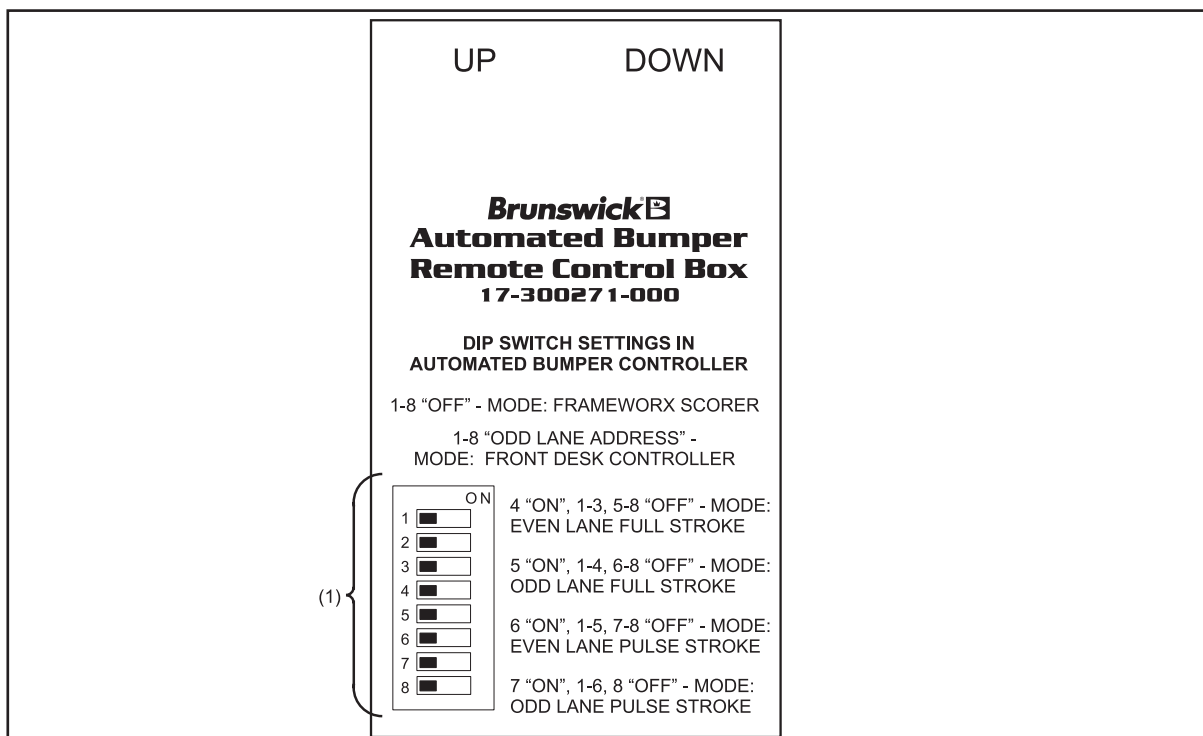

Figure 23. Automated Bumper Remote Control Box
2. Set DIP switches inside automated bumper controller as listed in *Figure 23*.
(1) DIP SWITCH SETTING
**i** **NOTE:** DIP switch settings as listed in Figure 23 are for raising/lowering rails for visual check and/or performing adjustments to the system only! After diagnostics, All DIP switch settings within automated bumper controller **MUST** be returned to the appropriate settings as indicated on pages 22 and 23 prior to using the bumpers for normal operation.